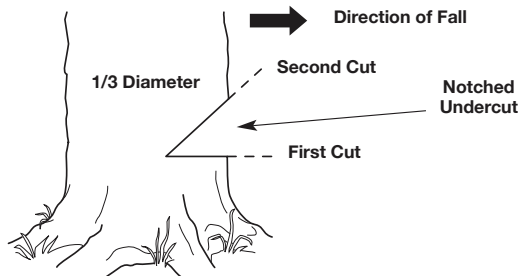

Fig. 11
- Make a horizontal cut into the trunk of the tree (Fig. 11). The cut should be about 1/3 the diameter of the tree and close to the ground. To prevent the guide bar from being pinched by the weight of the wood, always make this cut first.
- Make a 45° cut into the trunk of the tree, above the first cut (Fig. 11). Continue cutting until the two cuts meet.